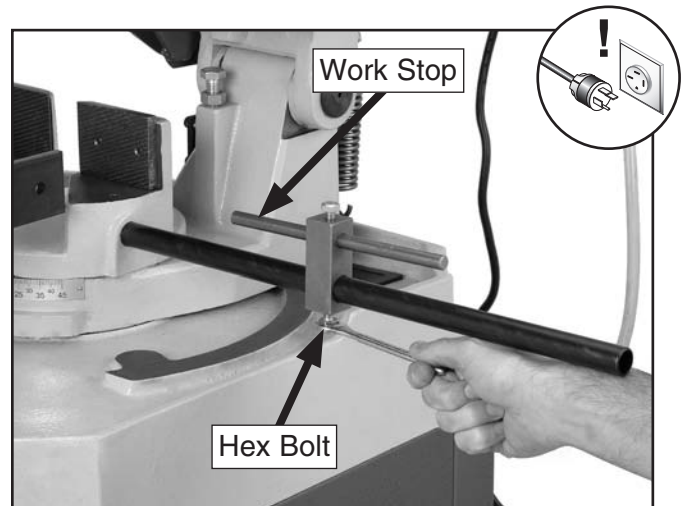

Figure 32. Work stop adjustment.
2. Loosen the work stop hex bolt (**Figure 32**).